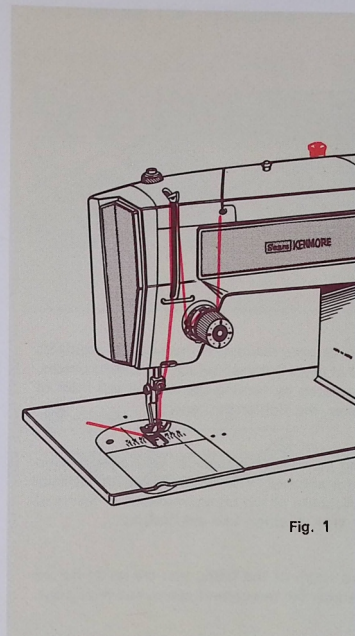

Fig. 1
⑥
1. Draw thread from spool through bobbin winder tension disc as shown in Fig. 1.